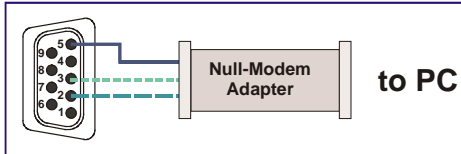

Figure 10: Straight Cable RS-232 Connection with a Null Modem Adapter
**Method B** (Figure 10)—Connect the RS-232 9-pin D-sub port on the unit via a straight (flat) cable to the null-modem adapter, and connect the null-modem adapter to the RS-232 9-pin D-sub port on the PC. The straight cable usually contains all nine wires for a full connection of the D-sub connector. Because the null-modem adapter (which already includes the flow control jumpering described in Method A above) only requires pins 2, 3 and 5 to be connected, you are free to decide whether to connect only these 3 pins or all 9 pins.